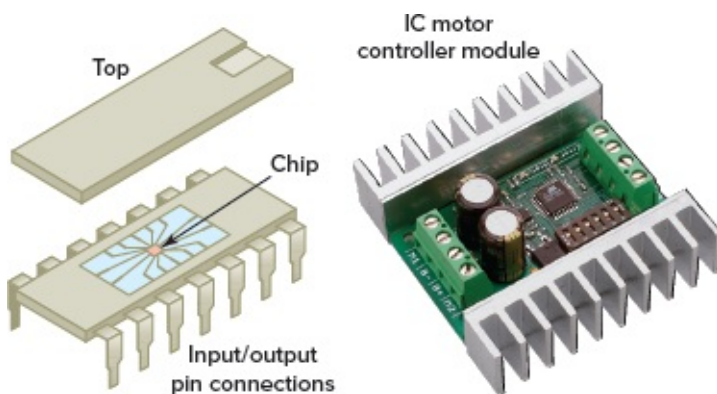

Figure 9-44 Integrated circuit (IC).
An integrated circuit (IC), sometimes called a **chip**, is a semiconductor wafer on which thousands or millions of tiny resistors, capacitors, and transistors are fabricated. IC chips provide a complete circuit function in one small semiconductor package with input and output pin connections, as illustrated in Figure 9-44. Most integrated circuits provide the same functionality as “discrete” semiconductor circuits at higher levels of reliability and at a fraction of the cost. Usually, discrete-component circuit construction is favored only when voltage and power dissipation levels are too high for integrated circuits to handle.